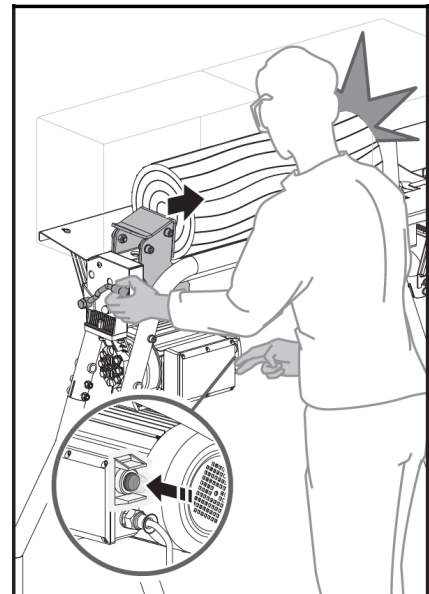

Fig. 14
- The log splitter requires both hands for safe operation: the left hand controls the hydraulic control lever (13), and the right hand operates the start button (7). See Fig. 14.
- Start by pressing and holding the start button (7) to activate the motor.
- Next, push the hydraulic control lever (13) downward to engage the log pusher (11).